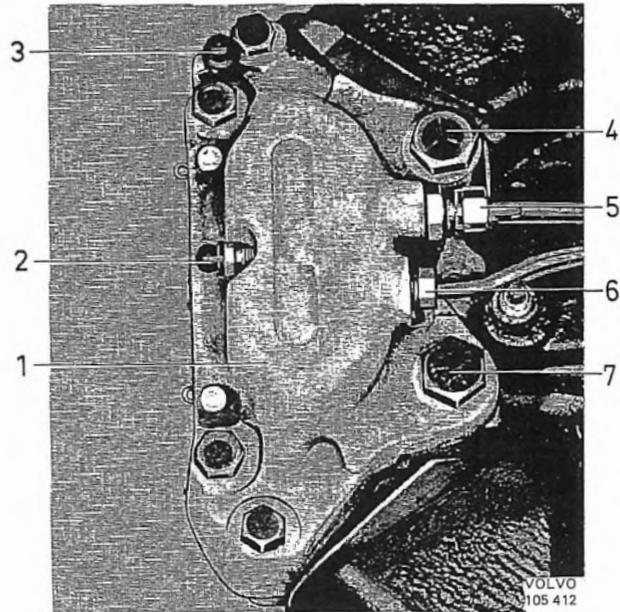

Fig. 5-19. Front wheel brake unit fitted
3. Disconnect the connections 5 and 6, Fig. 5-19 from the brake.
2. Fit the connectors as shown in Figs. 5-19 and 5-24. Remove the plug for the vent-hole in the brake fluid container cover.